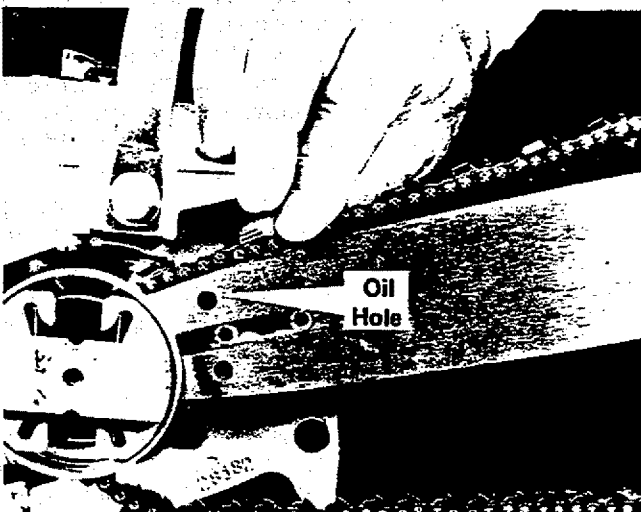

Fig. 3
4. Starting at the top of the bar, gradually work the chain into the groove of the bar until all drive links are engaged in the bar groove. Be sure cutters face forward on top of bar. Figure 3.